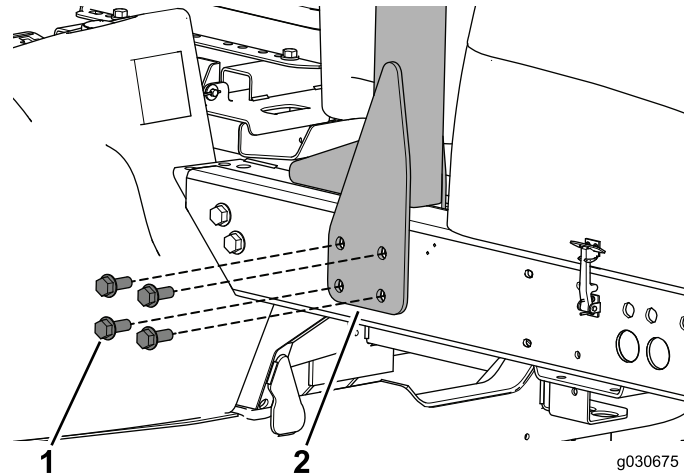

Figure 6
1. Remove the bolts securing the ROPS to the left side of the machine (Figure 6).